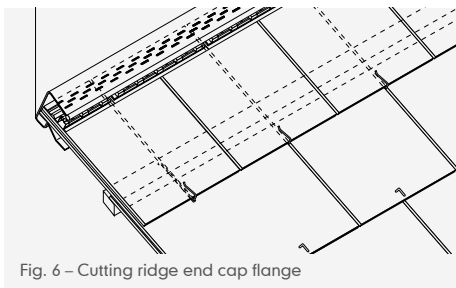

Fig. 6 – Cutting ridge end cap flange
- 3 For slate-and-a-half abutting verge, cut a 3mm wide slot parallel to verge from the head of slate down to point where leading edge of top course slate will be (Fig. 6).